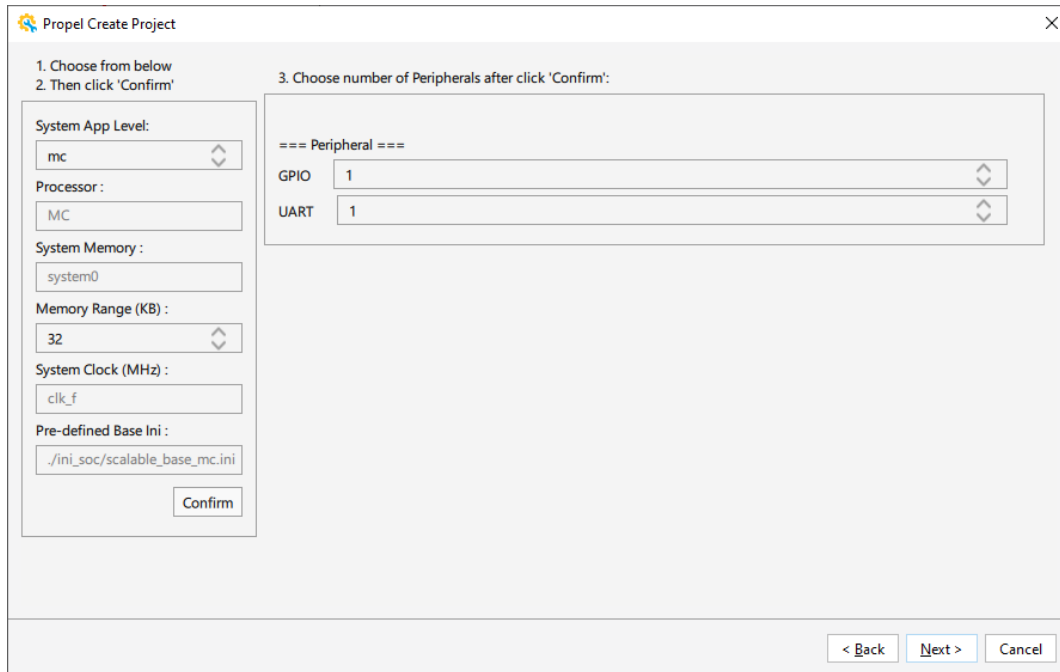

Figure 6.7. Confirm Page
5. Click **Next** and click **Confirm** (Figure 6.7).